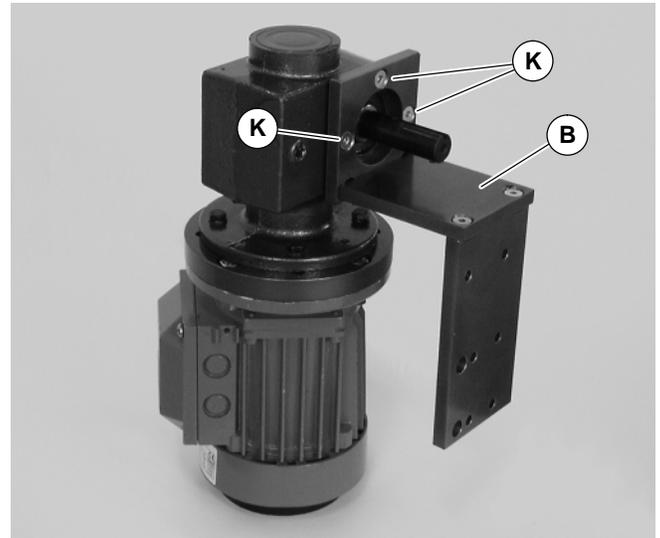

Figure 11
5. Remove three (3) screws (K of Figure 11) and remove mounting bracket (B).
- Attach mounting bracket (B of Figure 11) to gearmotor with screws (K). Tighten screws to 110 in-lb (12 Nm).